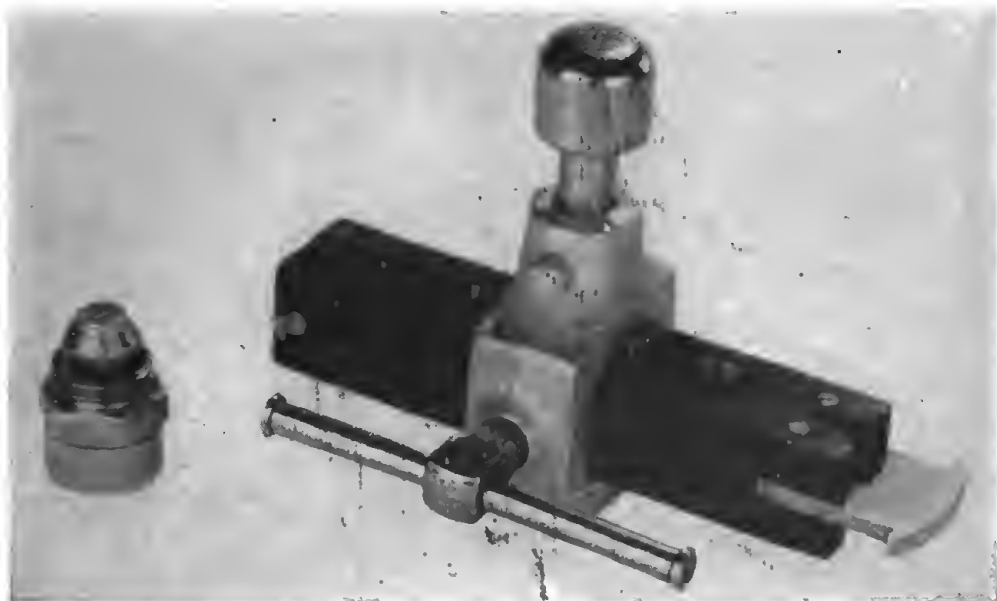

Figure 162. Tube-flaring tools.
c. TUBE-FLARING TOOL. (1) Flared tube connections are used to join tubing to fittings, bulkhead connections, and units. There are two types of tube-flaring tools: combination and individual. (See fig. 162.) The combination flaring tool will fit tubing ranging in size from $\frac{1}{8}$ - to $\frac{1}{2}$ -OD. The individual flaring tool will fit only the one size for which it was made.